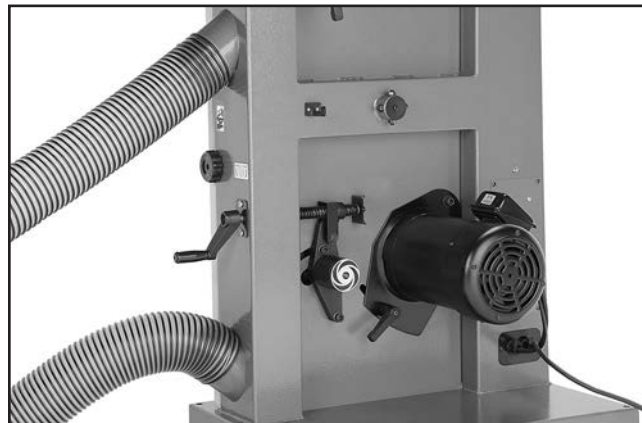

Figure 13. Dust hoses attached to dust ports.
22. Fit a 4" dust hose or 4" adapter over each dust port and secure in place with hose clamps, as shown in **Figure 13**.